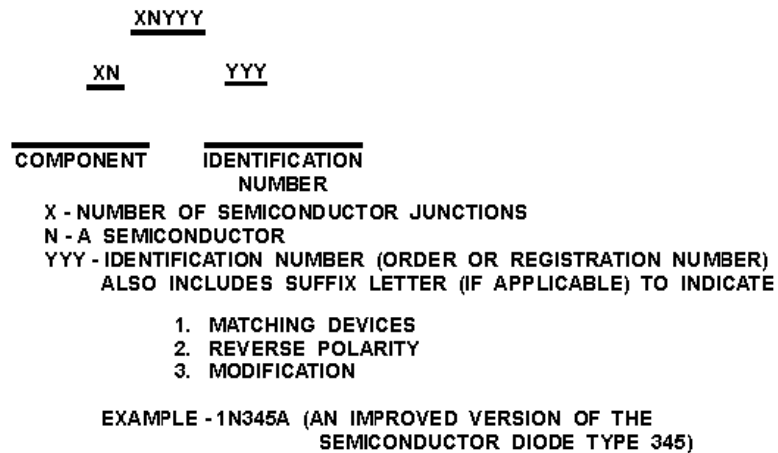

Figure 1-25.—Semiconductor identification codes.
There are many types of diodes varying in size from the size of a pinhead (used in subminiature circuitry) to large 250-ampere diodes (used in high-power circuits). Because there are so many different types of diodes, some system of identification is needed to distinguish one diode from another. This is accomplished with the semiconductor identification system shown in figure 1-25. This system is not only used for diodes but transistors and many other special semiconductor devices as well. As illustrated in this figure, the system uses numbers and letters to identify different types of semiconductor devices. The first number in the system indicates the number of junctions in the semiconductor device and is a number, one less than the number of active elements. Thus 1 designates a diode; 2 designates a transistor (which may be considered as made up of two diodes); and 3 designates a tetrode (a four-element transistor). The letter "N" following the first number indicates a semiconductor. The 2- or 3-digit number following the letter "N" is a serialized identification number. If needed, this number may contain a suffix letter after the last digit. For example, the suffix letter "M" may be used to describe matching pairs of separate semiconductor devices or the letter "R" may be used to indicate reverse polarity. Other letters are used to indicate modified versions of the device which can be substituted for the basic numbered unit. For example, a semiconductor diode designated as type 1N345A signifies a two-element diode (1) of semiconductor material (N) that is an improved version (A) of type 345.